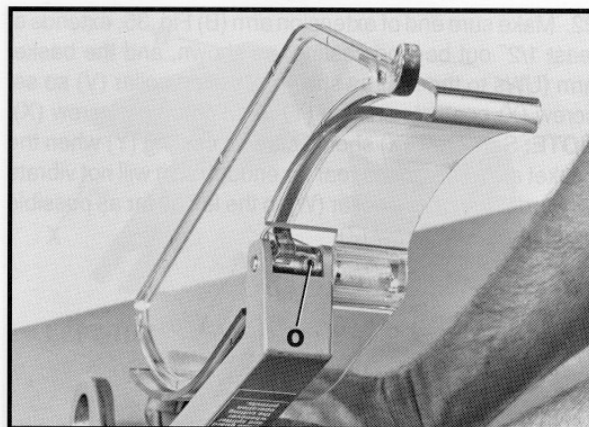

Fig. 31
18. Tighten set screw (O) Fig. 31, to hold basket assembly together.